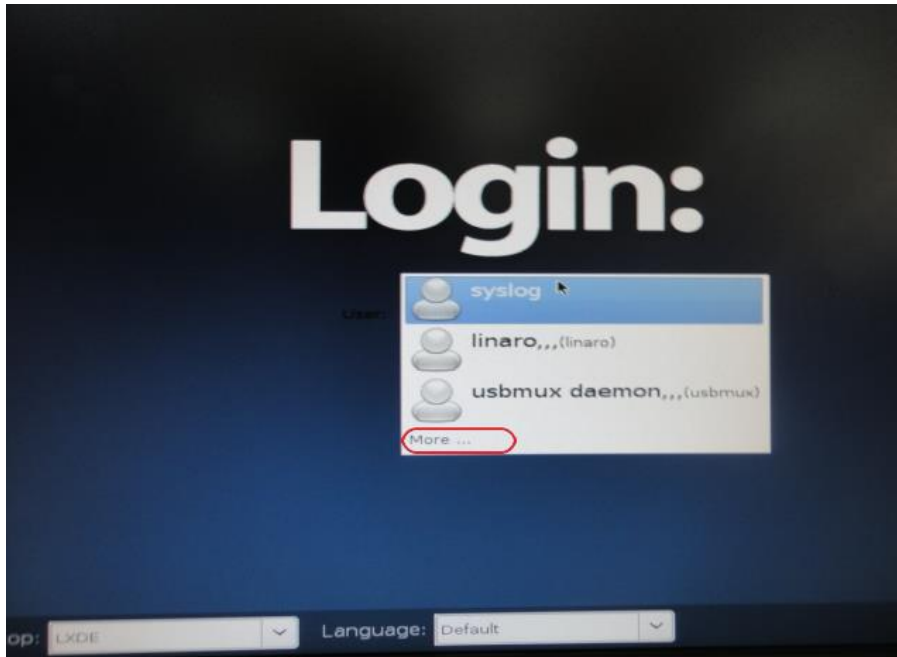
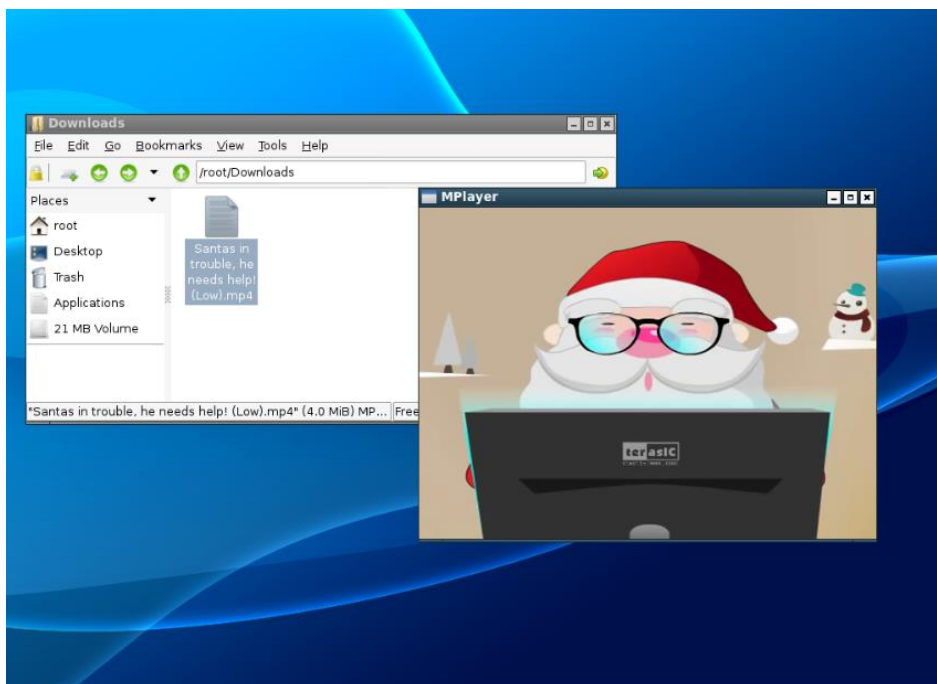

Figure 6-3 Login Interface of LXDE
Figure 6-4 Using LXDE to Play a Video
- After a while, the login interface shows on the monitor as shown in **Figure 6-3**. You should choose more and type "root" when it requires your user name and press "Enter" on your USB keyboard and type "terasic" for password and press "Enter". Now you should login in to the LXDE and try to get familiar with the GUI system. **Figure 6-4** shows a mp4 video playing in LXDE.